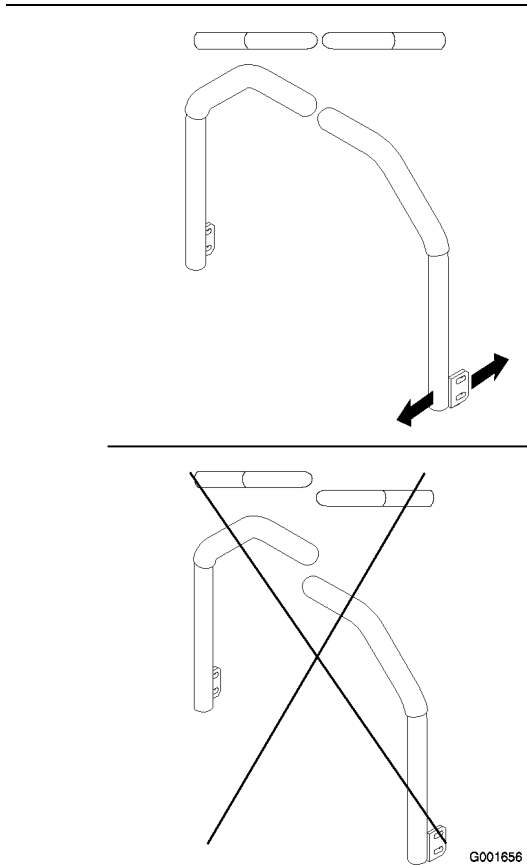

Figure 47
4. Align the levers front to rear position by bring the levers together to the neutral position and slide them until they are aligned, then tighten the bolts (Figure 47).